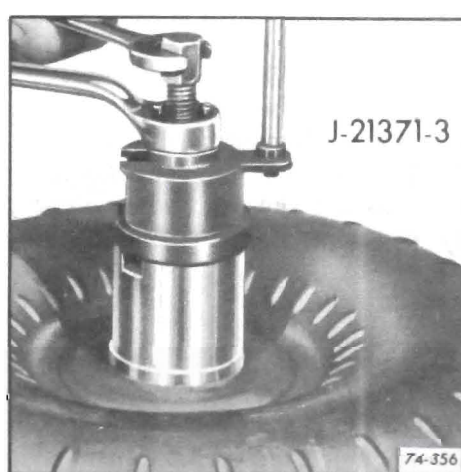

Figure 74-356
b. Install Tool J-21371-3 and tighten hex nut. See Figure 74-356.